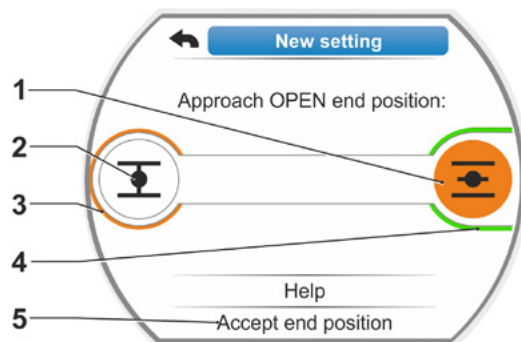

Fig. 4: Approach end position in OPEN direction
5. Select end position to be set first (in our example end position OPEN) (fig. 3, item 1) and confirm. Display changes to end position adjustment and you are requested to approach end position OPEN (fig. 4). OPEN direction is offered as operation direction: End position OPEN symbol is shaded in orange (fig. 4, item 1). If operation in the opposite direction is desired, turn Drive Controller and set orange selection marked to symbol CLOSED (fig. 4, item 2).